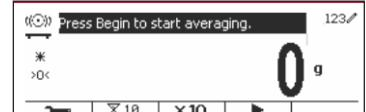

Figure 76
- Press the  button until the icon corresponding to Dynamic is displayed in the upper left corner of the screen. (See Figure 76)
- Press the softkey corresponding to the ➡ icon to start averaging. To abort the averaging, press the button corresponding to the ✕ icon. (See Figure 76)